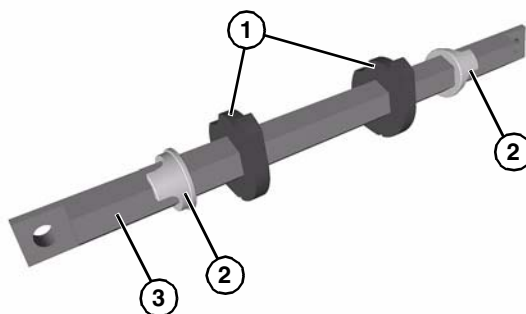

Figure 17
1. Slide stop keys (Figure 17, item 1) and tip up sleeves (Figure 17, item 2) onto hex shaft (Figure 17, item 3). The tabs on the tip up sleeves face outward and align with the slotted ends of the hex shaft as shown.